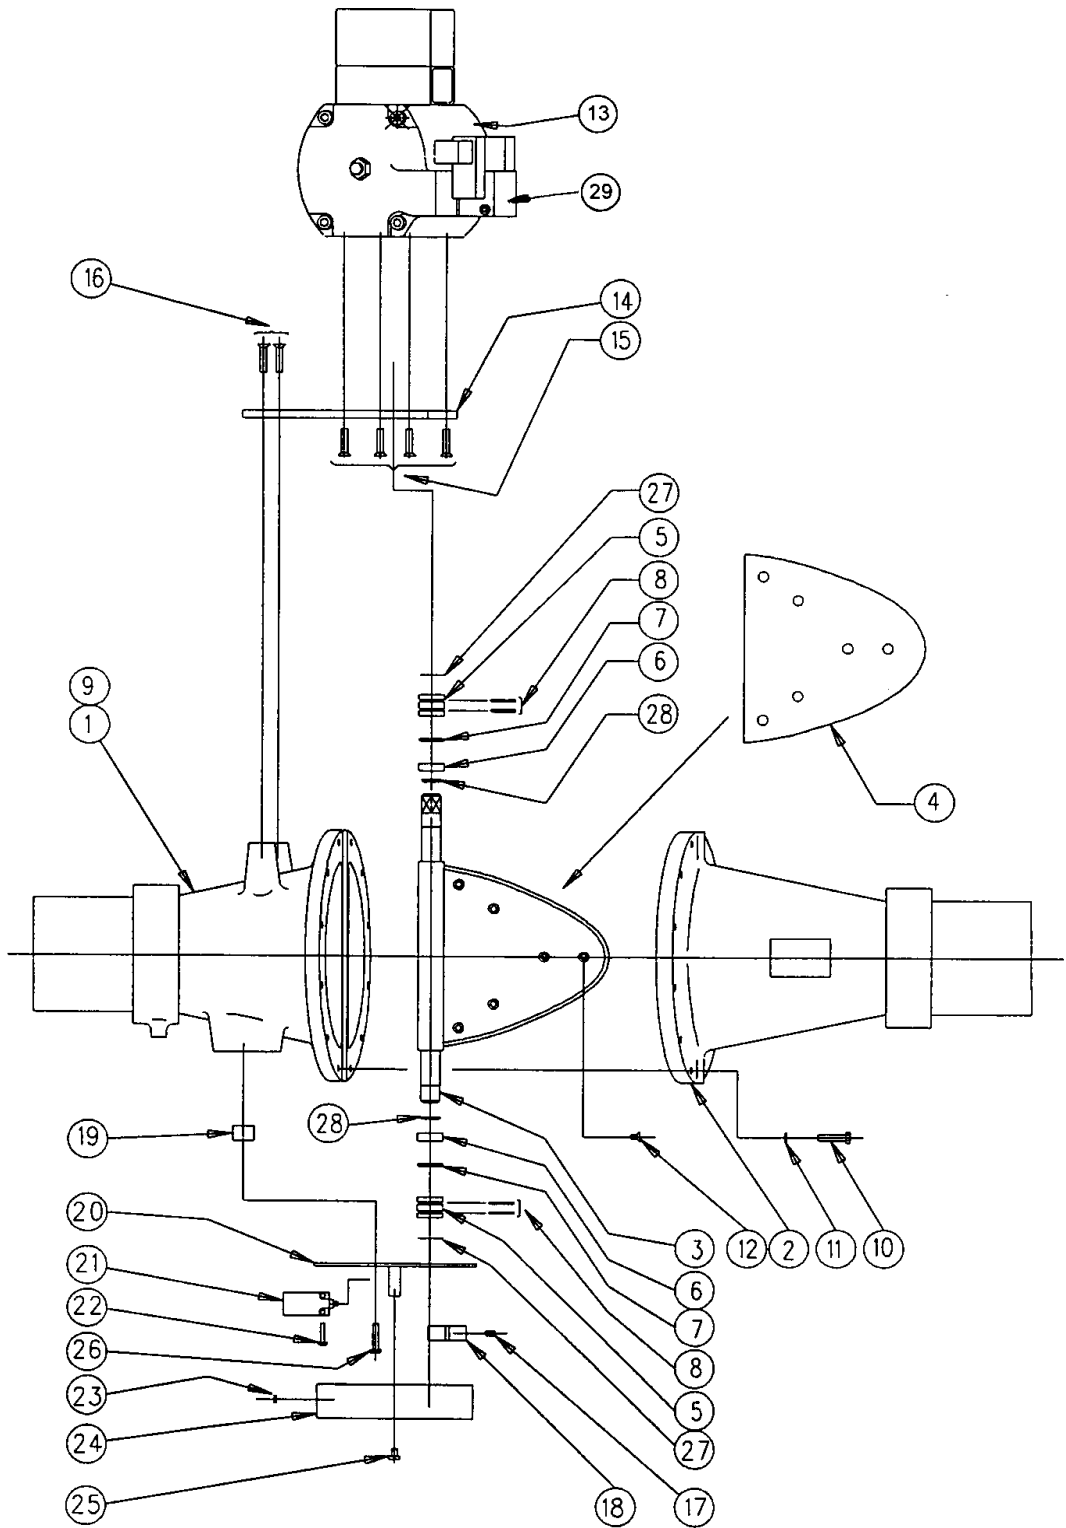

Fig. 5
- 4.2 Item numbers refer to figure 5.